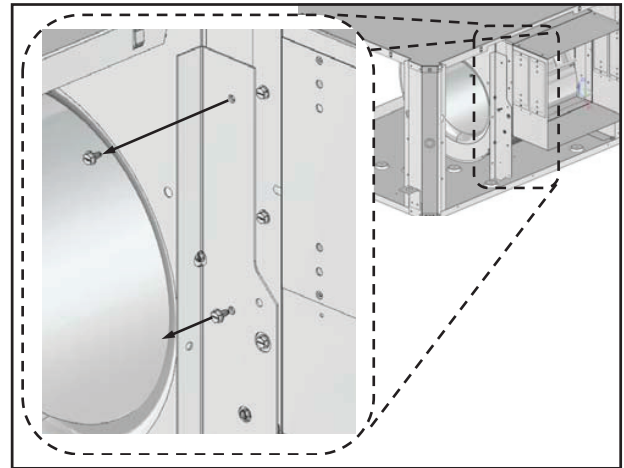

Fig. 48 - Remove Vertical Blower Bracket
8. Remove and retain remaining vertical blower bracket by removing (2) screws. See Fig. 48.